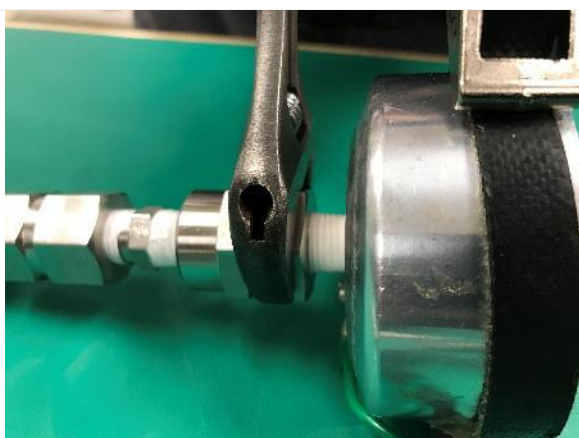

Figure 226. Remove the Heated Cap.
STEP 14 | Using a wrench strap to secure the cap, remove the nut with a wrench to separate the orifice from the heated cap. Reference **Figure 226**.